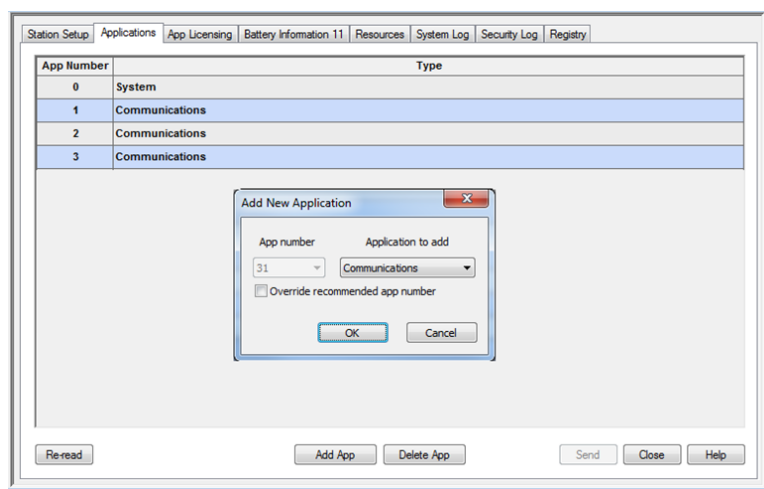

Figure 91: Applications list
4. If an application or device is not in the list and needs to be added, click **Add App**. The Add New Application box displays (Figure 91).